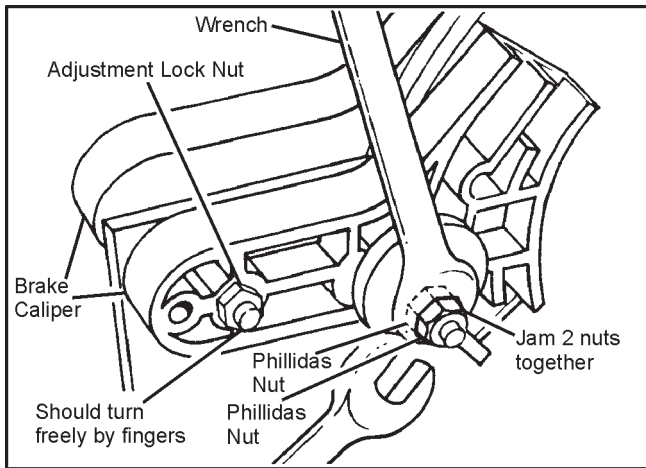
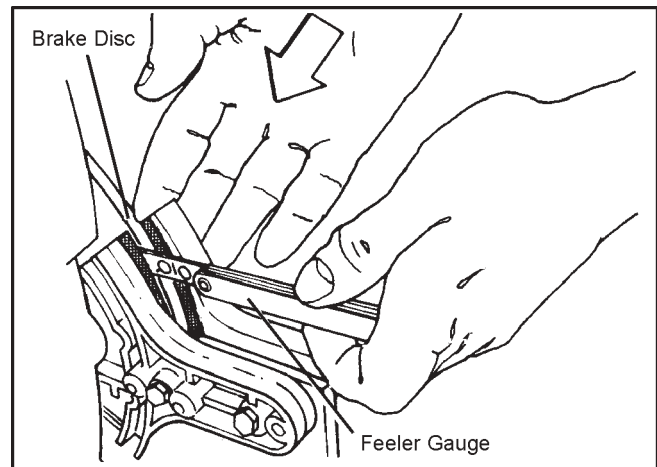

Figure 7-21. Tightening the lock nut
Figure 7-23. Brake pad wear, mechanical brakes
1. Tighten the lock nut with a 1/2" open end wrench, no wider than the thickness of the lock nut (Figure 7-21). As the lock nut is tightened, measure the clearance between the brake disc and pad as shown in Figure 7-23, using a .010" feeler gauge. .010" is the correct clearance between the left